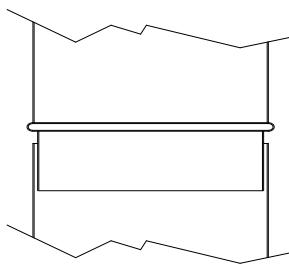
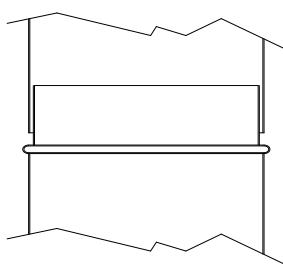

Figure 1:
Figure 2:
- When the pipes run through the inside of the home or a brick chimney, they should be mounted as shown in Figure 1 to prevent liquids produced by the condensation of the gases flowing through the joints and out of the pipes. If a pipe section runs outside the building it must be mounted in the direction shown in Figure 2 to prevent rainwater draining down the outside part of the pipe and entering into the pipe interior through the joints.